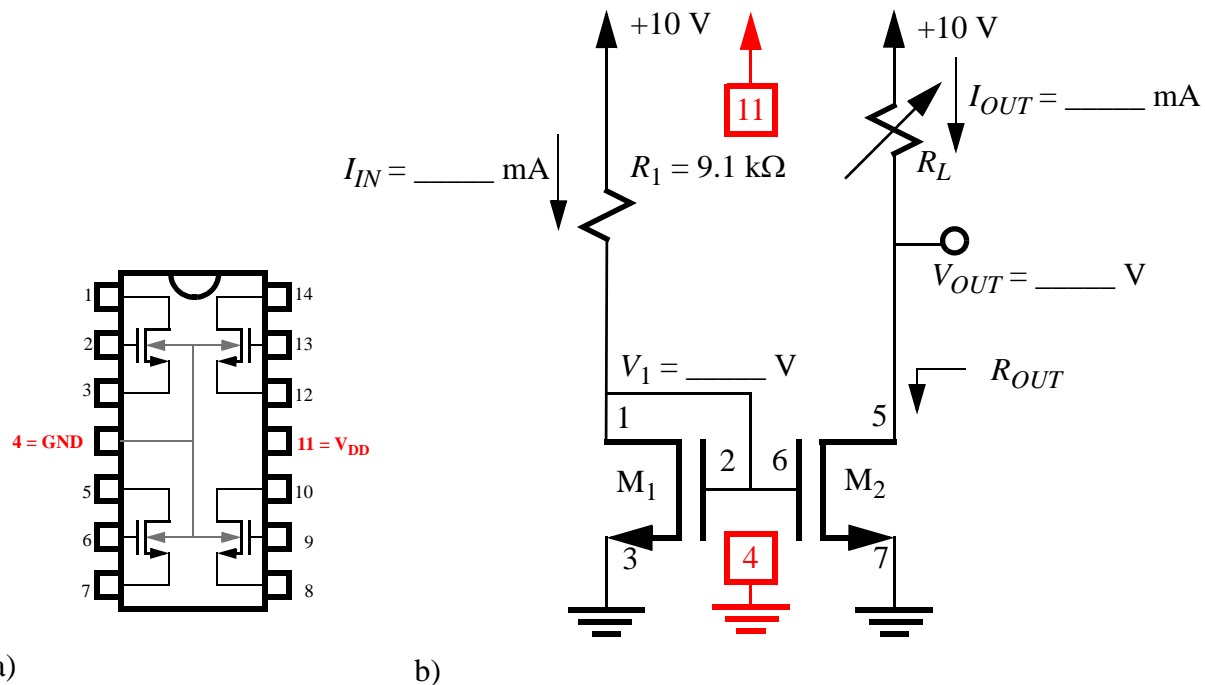
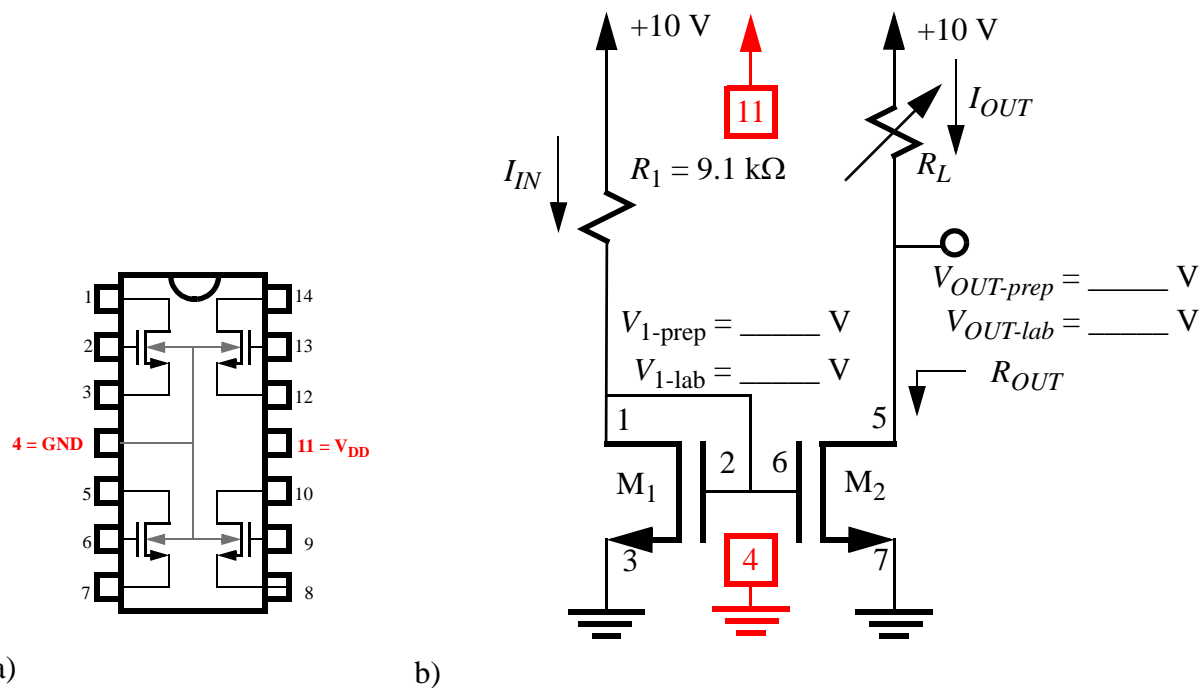

Figure 1) a) Pin diagram for the ALD1106. b) A simple current mirror.
Figure 4) Lab version of Fig. 1, a) Pin diagram for the ALD1106. b) A simple current mirror.
1. Verify that your circuit analysis and the pre-wiring done in part 1 of the preparation are correct by applying 10 V and ground to your pre-wired circuit and measuring the node voltages. Record the measured voltages on Fig. 4 (lab version of Fig. 1).
- Using the plot of part 1 above, determine the value of  $I_{OUT}$  when  $V_{OUT} = V_1$  (see Fig. 1) and determine the value of  $I_{IN}$  based on your measured value of  $V_1$ . Then, based on these values of  $I_{OUT}$  and  $I_{IN}$  determine;